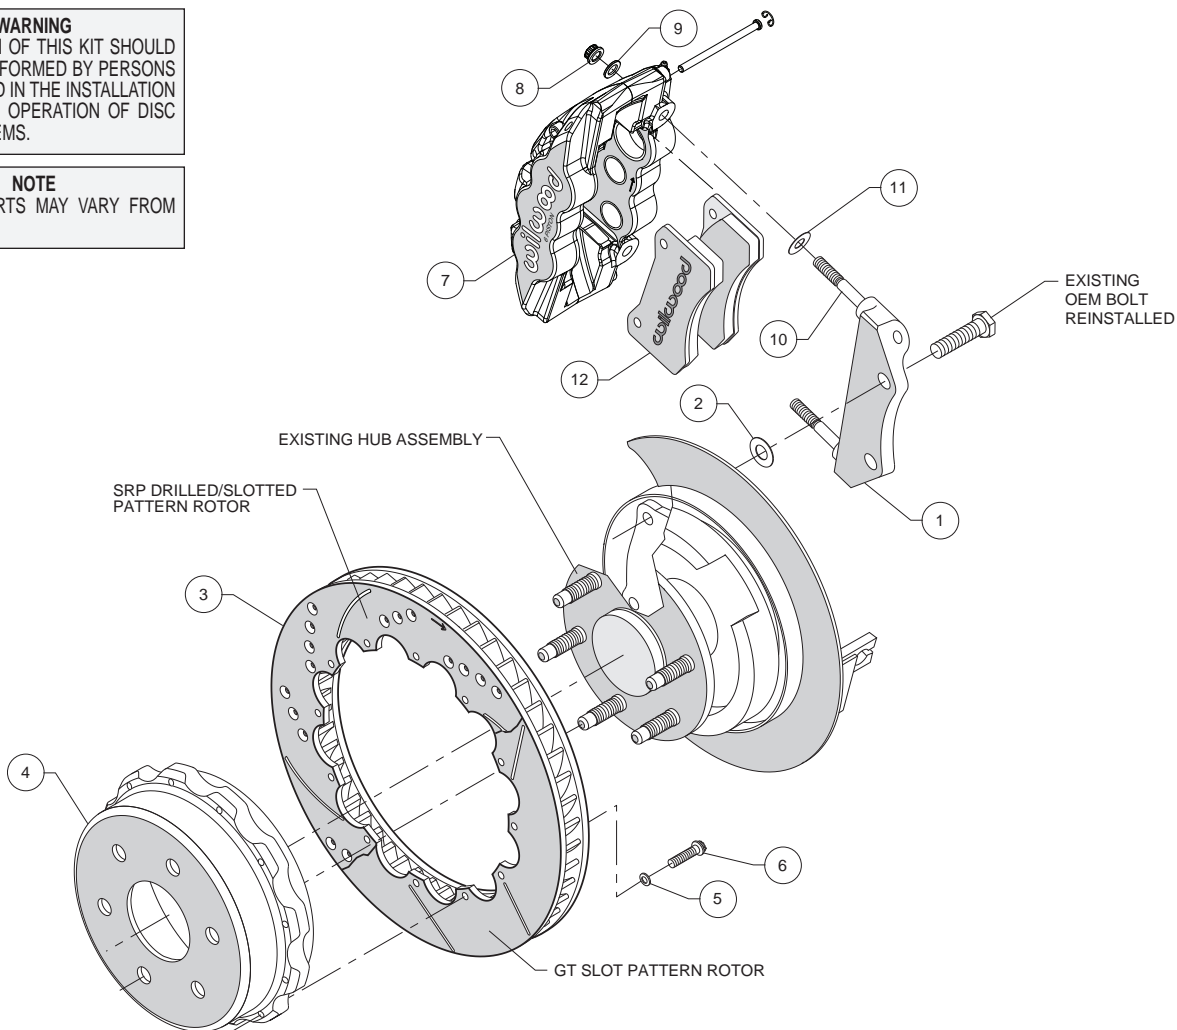

Figure 1. Typical Installation Configuration
(numbers in parenthesis refer to the parts list and Figure 1 on the preceding page):
- Install one shim (11) over each stud (10) on the radial mount bracket (1). Slide the caliper (7) in place over the studs and rotor and install the washer (9) and lock nut (8) to hold the caliper in place. The caliper bleed screws should be pointing up. Snug the lock nuts (8) and check that the rotor (3) is centered in the caliper (7). Add or subtract .029" shims (2) as necessary between the caliper mount bracket (1) and the caliper mount bosses on the upright assembly to center the caliper (7).
- Remove the two pad retaining pins from the caliper (7) by carefully popping out the pin retaining clips and sliding out the pins. Insert the brake pads (12) into the caliper from the bottom, Figure 1. With the friction material facing the rotor, secure the brake pads in place with the pad retaining pins and clips. Reinstall the caliper onto the caliper mounting bracket and temporarily tighten the lock nuts. Check that the top of the brake pad is flush with the outside diameter of the rotor. If not, adjust by adding or subtracting shims (11) between the caliper and the bracket.
- Adjust the parking brake shoes outward (using a drum shoe adjustment tool available at your local auto parts store) while spinning the hat (4) until a slight drag is felt against the hat/drum.
- Once all clearances have been checked, remove the wheel, caliper and rotor from the axle flange. Secure the caliper mounting bracket (1) to the upright using red *Loctite*® 271 on the bolt threads. Torque the bolts to manufacturer's specifications. Reinstall the rotor and again use several lug nuts to hold it in place. Lubricate caliper mounting studs and nuts with lightweight oil, reinstall the caliper, torque the caliper nuts (8) to 47 ft-lbs.